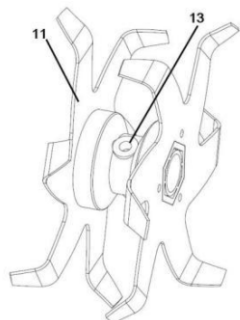

Fig.1
- 1.Remove hex socket screw 13 from blade component 11 using a hex socket wrench.(Fig1)